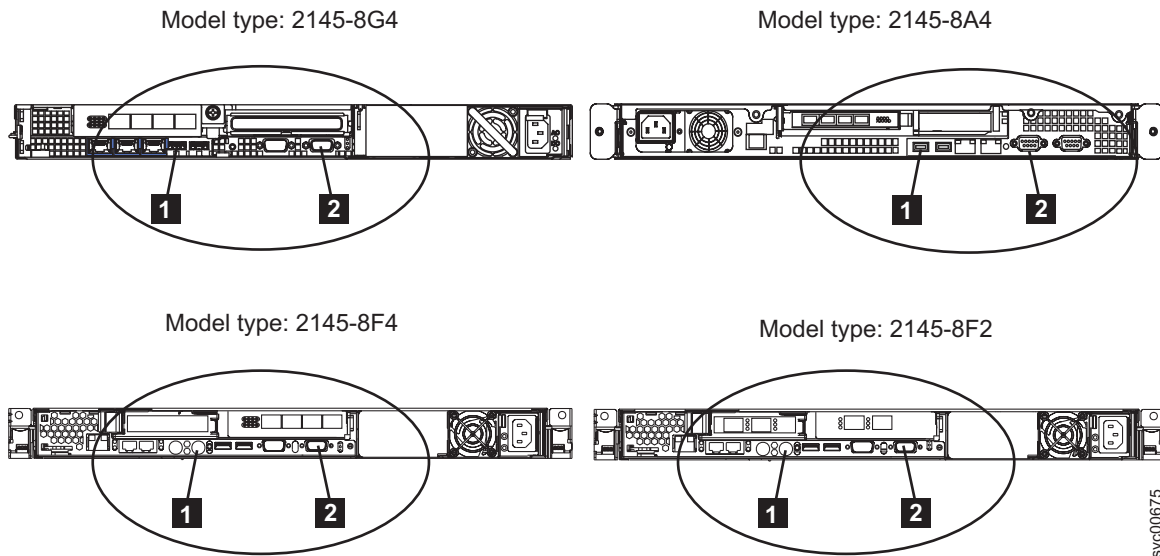
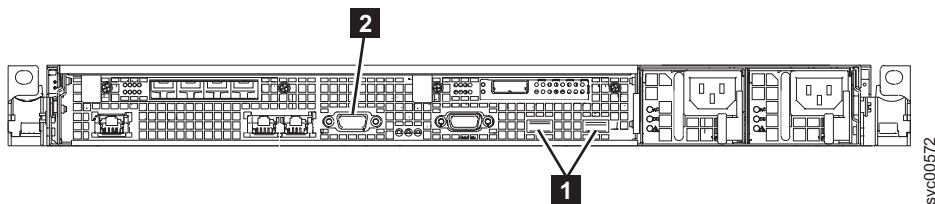
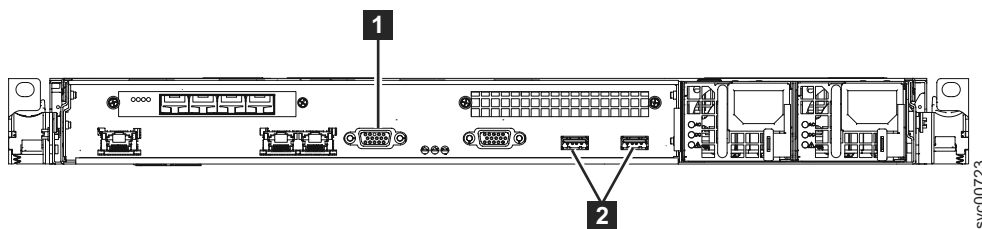

Figure 106. Keyboard and monitor ports on the SAN Volume Controller models 2145-8G4, 2145-8A4, 2145-8F4 and 2145-8F2
Figure 107. Keyboard and monitor ports on the SAN Volume Controller 2145-CF8
Figure 108. Keyboard and monitor ports on the SAN Volume Controller 2145-CG8
- b. Connect the keyboard **1** and the display **2**. Figure 106 shows the location of the keyboard and monitor ports. Figure 107 shows the location of the keyboard and monitor ports on the 2145-CF8. Figure 108 shows the location of the keyboard and monitor ports on the 2145-CG8.